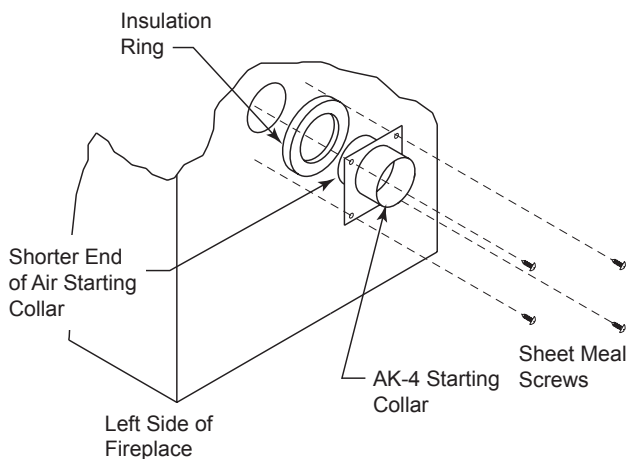

Figure 16 - Attach Outside Air Starting Collar and Insulation Ring to Left Side of Fireplace
3. Place the starting collar (4") into the hole on the side of fireplace. Fasten it in place with the four sheet metal screws provided. *Figures 16 and 17*